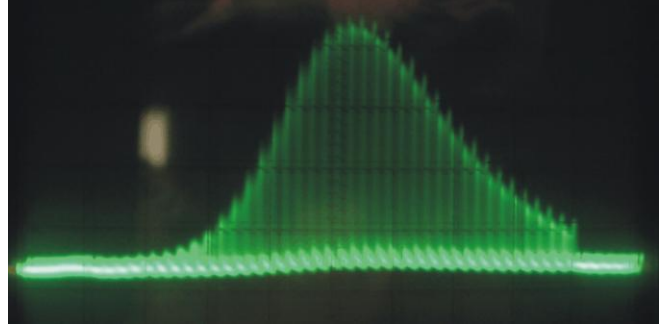

FIGURE 2: Oscilloscope trace of buildup time of 120 fs Spitfire laser.
**IMPORTANT:** to avoid damaging optics or other equipment, such as beam profiler or spectrometer, *use minimum laser power for the laser alignment.* Reducing laser power is most easily accomplished by ejecting a weak pulse out of the laser cavity. FIGURE 2 shows a late pulse ejected out of 120 fs Spitfire used for alignment. Full beam power can be used with caution.
**IMPORTANT:** to avoid damaging optics or other equipment, such as beam profiler or spectrometer, *use minimum laser power for the laser alignment*. Reducing laser power is most easily accomplished by ejecting a weak pulse out of the laser cavity. FIGURE 2 shows a late pulse ejected out of 120 fs Spitfire used for alignment. Full beam power can be used with caution.